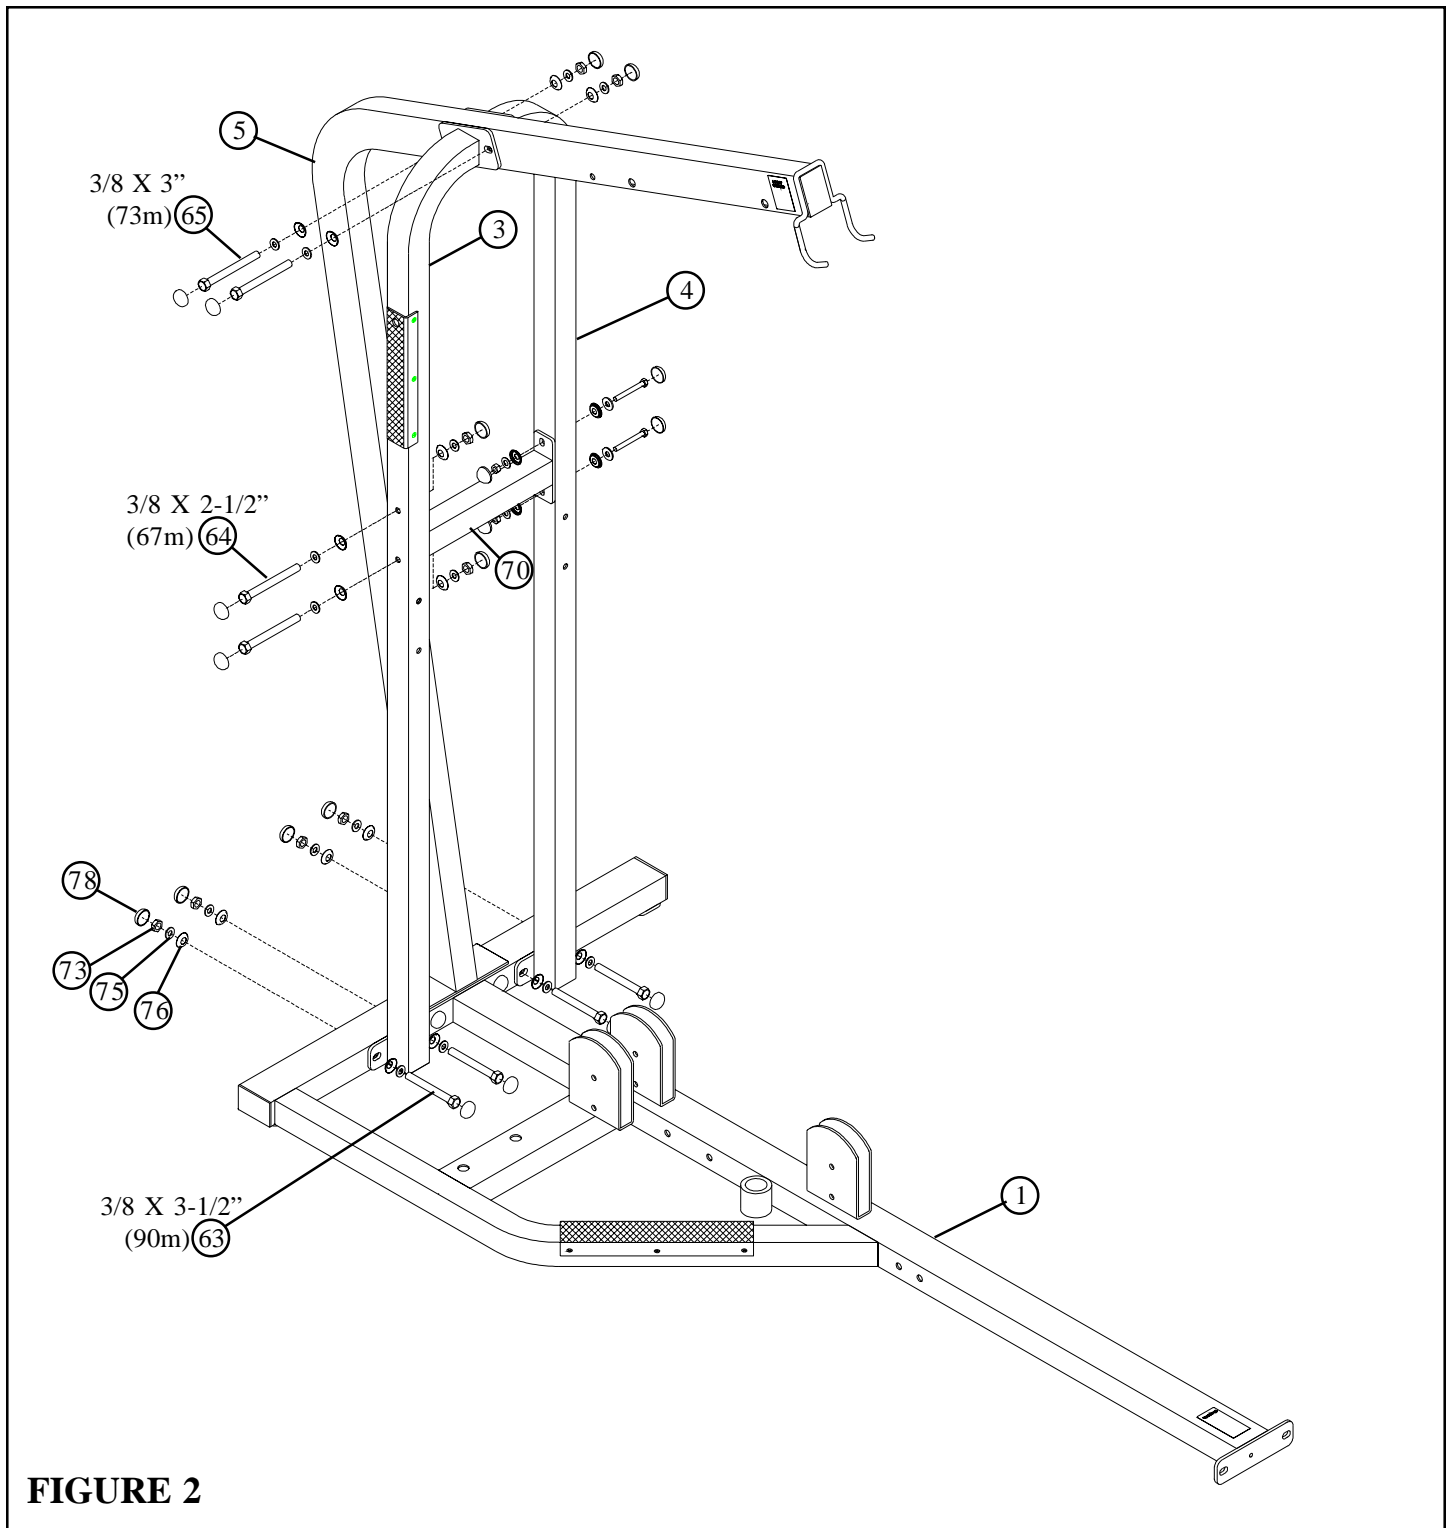

FIGURE 2
- **LOOSELY** assemble the LEFT and RIGHT BOOM SUPPORTS (3 & 4) to the BASE (1) using eight RH CAPS (78), four 3/8 X 3-1/2" BOLTS (63), eight 3/8" SAE WASHERS (75), eight 3/8" RH WASHERS (76) and four 3/8" LOW HEIGHT LOCK NUTS (73) as shown in FIGURE 2.
- **LOOSELY** assemble the LEFT and RIGHT BOOM SUPPORTS (3 & 4) to the REAR UPRIGHT (5) using four RH CAPS (78), two 3/8 X 3" BOLTS (65), four 3/8" SAE WASHERS (75), four 3/8" RH WASHERS (76) and two 3/8" LOW HEIGHT LOCK NUTS (73) as shown in FIGURE 2.
- **LOOSELY** assemble the CROSS SUPPORT (70) between the LEFT and RIGHT BOOM SUPPORTS (3 & 4) using eight RH CAPS (78), four 3/8 X 2-1/2" BOLTS (64), eight 3/8" SAE WASHERS (75), eight 3/8" RH WASHERS (76) and four 3/8" LOW HEIGHT LOCK NUTS (73) as shown in FIGURE 2.